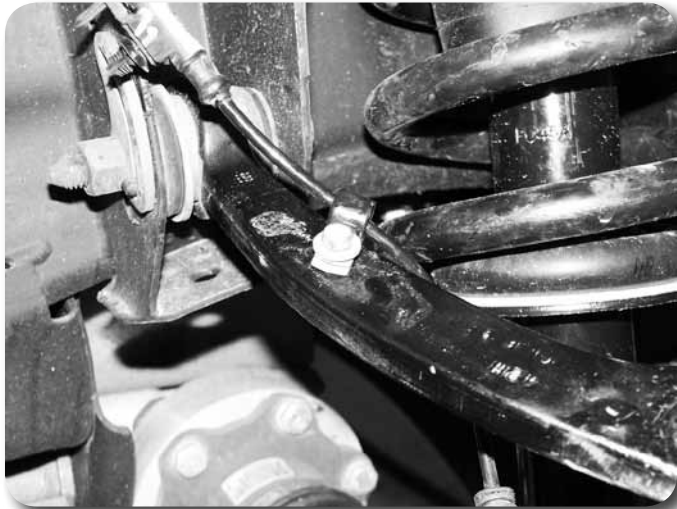

Figure 31
64. 63. Attach the ABS line to the upper control arm with the original brake line mounting bolt and provided wire clamp **Figure 31**.